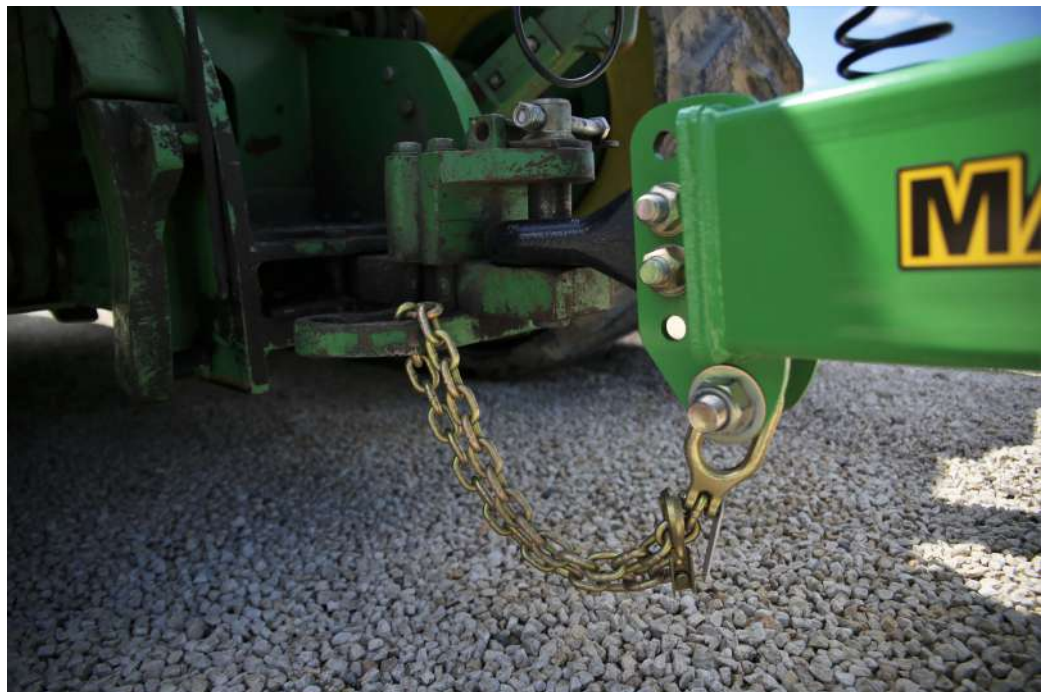

Figure 4. Connecting Heavy Harrow to Tractor
4. Connect the safety chain as shown in Figure 4 below. Be sure the safety chain has enough slack to allow the implement to turn.